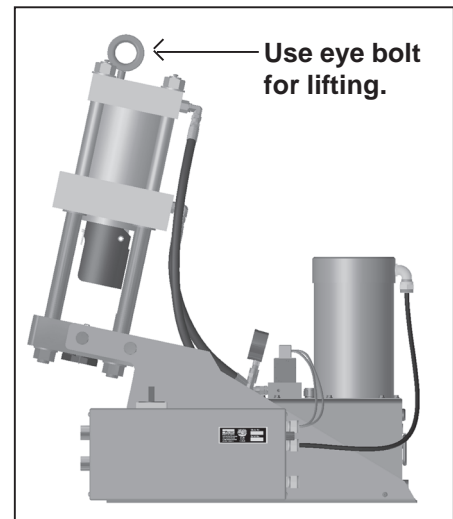

Figure 3: Eye bolt should be used for lifting
3. Remove the yellow cylinder guard held by the four 1/4"-20 cap screws and set aside. Included with the crimper is a 3/4"-10 threaded eyebolt used for lifting and handling. **Fully** thread the enclosed eyebolt into the top cylinder hole. Figure 3 highlights the eyebolt.